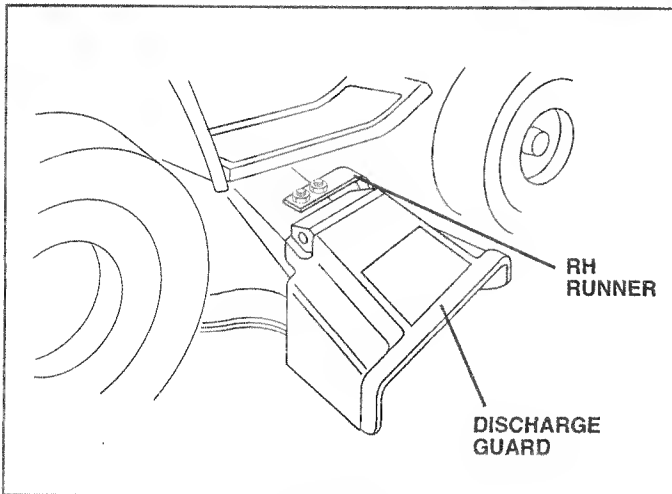

FIG. 10
TO OPERATE MOWER (See Fig. 10)
- Use the runner on the right hand side to mow as a guide. The blade cuts approximately an inch outside the runner (See Fig. 10).